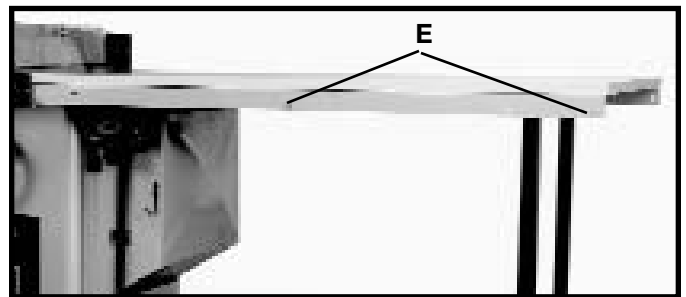

Fig. 20A
4. Insert two 1/4-20x3/4" hex head bolt (E) Fig. 20A into the front support of the extension table and place flat washer and nut onto bolt from underneath the extension table. Screw bolt into nut two complete turns, leaving bolt head extended approximately 1/4" from the extension table.